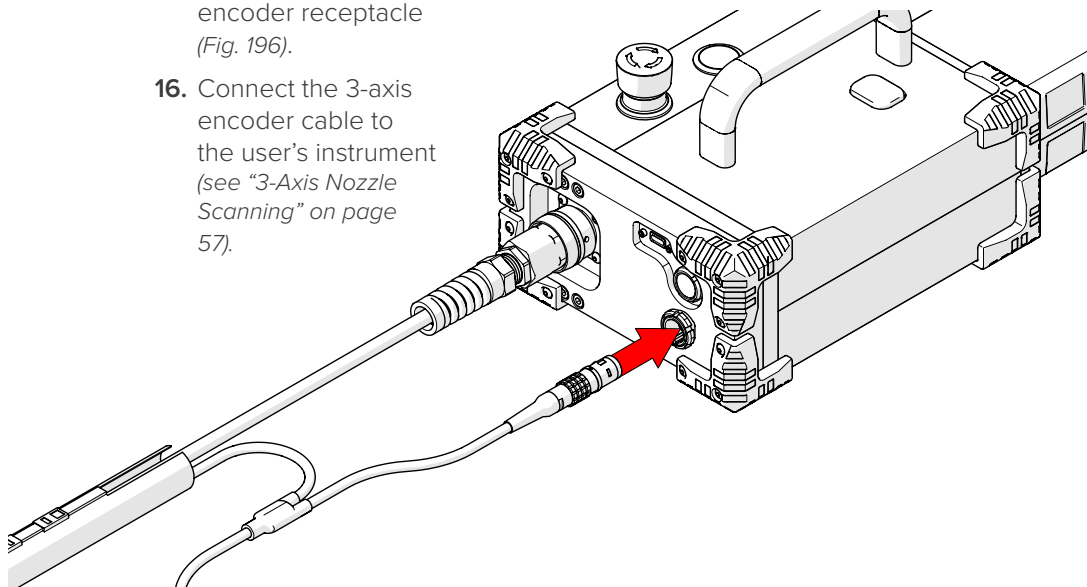

Fig. 196 - Plug 3-axis encoder cable into the power controller
15. Plug the opposite end of the 3-axis encoder cable into the power controller's encoder receptacle (Fig. 196).